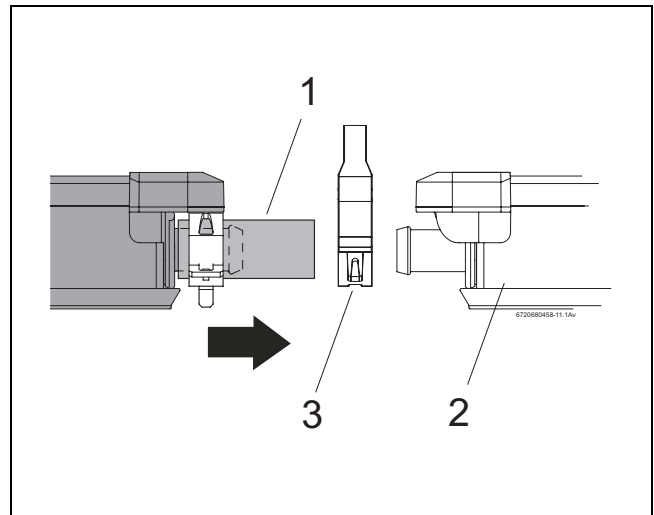

Fig. 43 Pushing the second collector towards the first
- ▶ Place the second collector with the pre-assembled solar hoses (Fig. 43, [1]) on the profile rails and let it slide into the anti-slip brackets.
- ▶ Push the second hose clip (Fig. 43, [3]) over the solar hose.
- ▶ Push the second collector up against the first collector (Fig. 43, [2]) in such a way that the pre-assembled solar hoses are pushed onto the left hand connections of the first collector.